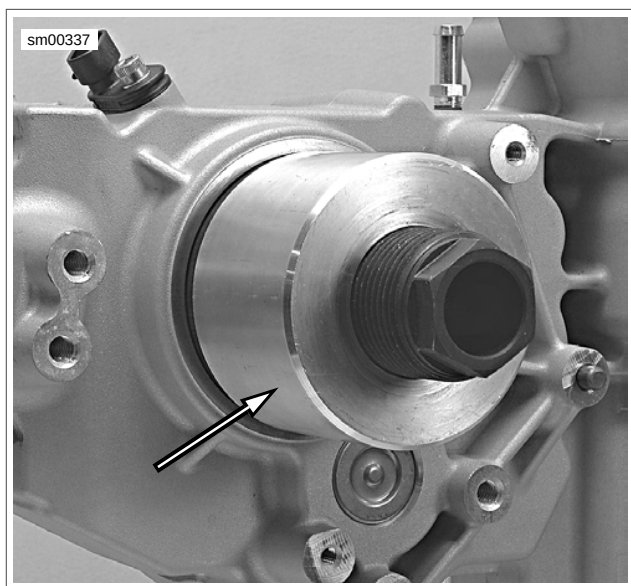

Figure 6-80. Place Installer over Adapter (Typical)
5. See Figure 6-80. Slide INSTALLER (Part No. HD-47856-1) over adapter until cupped end of installer is flat against seal.